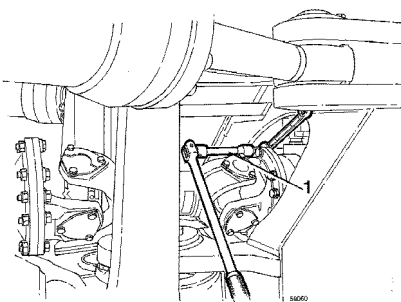

Figure 2
5. Remove the front propeller shaft, see **Figure 2**.